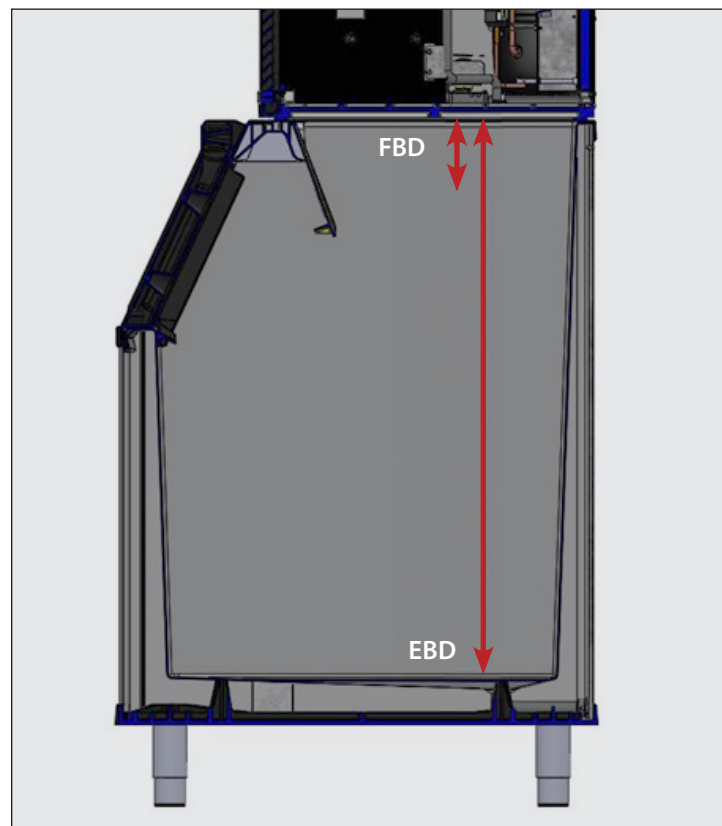

Fig. 1. FBD vs. EBD.
- Full Bin Distance (FBD) is the distance in centimeters between the sensor and the ice when the machine enters the FULL BIN state with the damper held down. See fig. 1.
- Empty Bin Distance (EBD) is the distance in centimeters between the sensor and the bottom of the ice storage unit. See fig. 1.